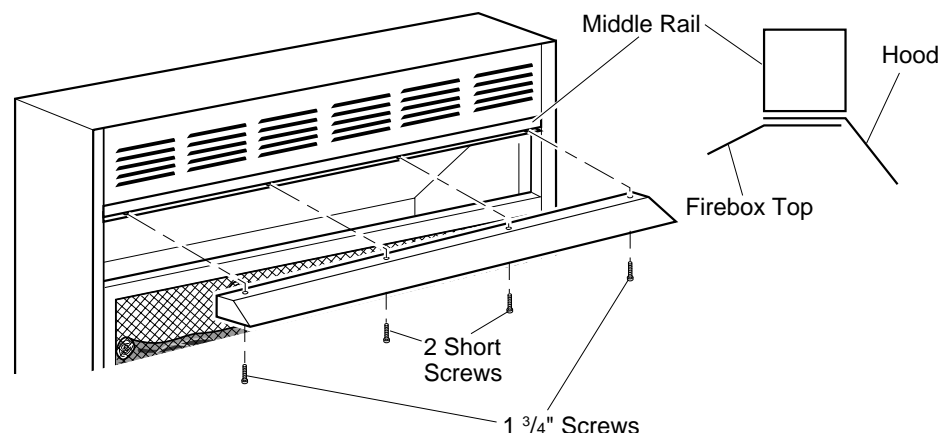

Figure 3 - Assembling Hood
2. Remove two 1 3/4" screws from underneath middle rail (see Figure 3).
3. Slip top of hood between middle rail and top of firebox wrapper (see Figure 3).
4. Reinstall two 1 3/4" screws removed in step 2. Make sure screw pass through hood and middle rail and attach into upper louver assembly (see Figure 3).
5. Attach four #10-3/8" hood screws as shown in Figure 3.